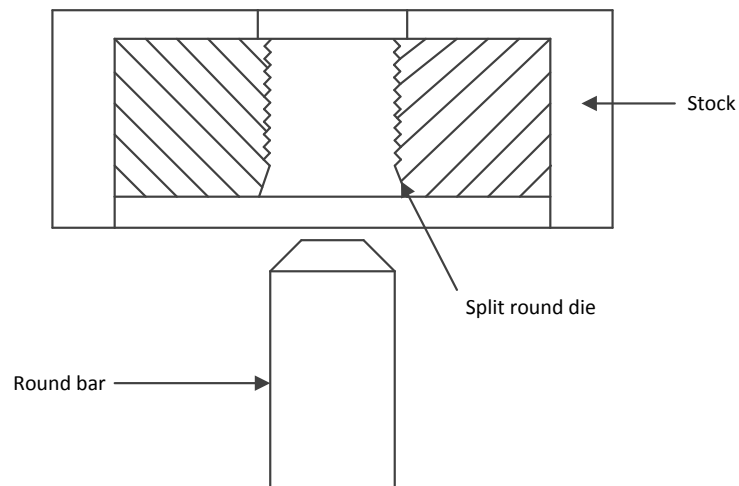

FIG 4.
- E. Mount the split round die into the stock to allow the tapered end to enter on the material first. (Fig 4 on the following page)